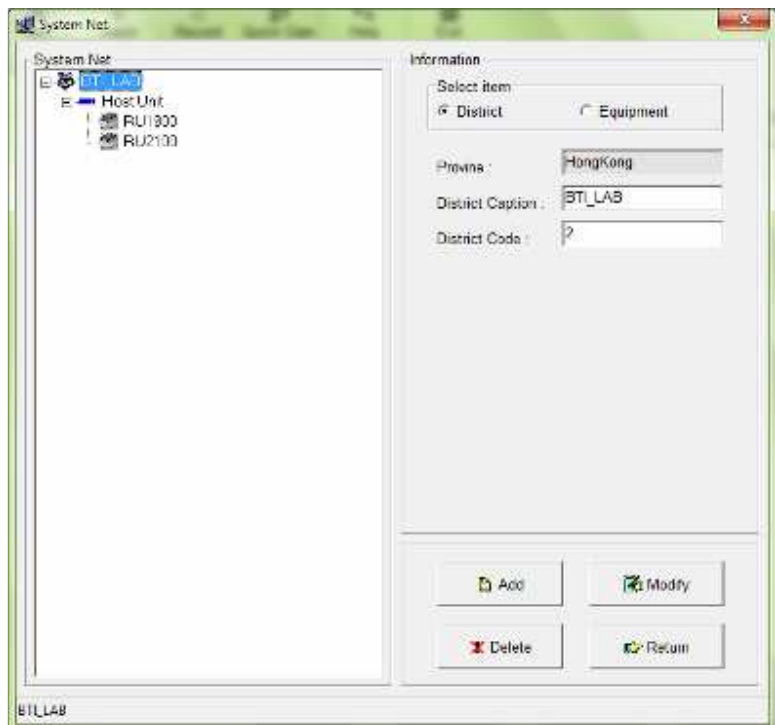

Figure 3-11. Completion of the System Configuration
8. Figure 3-11 shows the completion of the system configuration and adding Host unit and Remote Units in NMS.